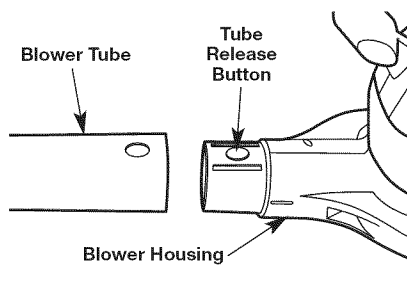

Fig. 3
- Slide the widest end of the blower tube over the front opening on the blower housing until the tube release button locks into place (Fig. 3).